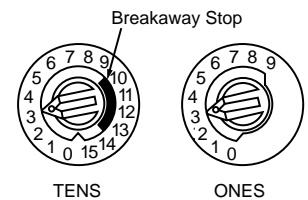

Figure 2. Rotary Address Switches
2. Set the desired address on the sensor address switches, see Figure 2.
NOTE: Some panels support extended addressing. In order to set the sensor above address 99 on compatible systems, carefully remove the stop on the upper rotary switch with thumb or as shown in Figure 2.